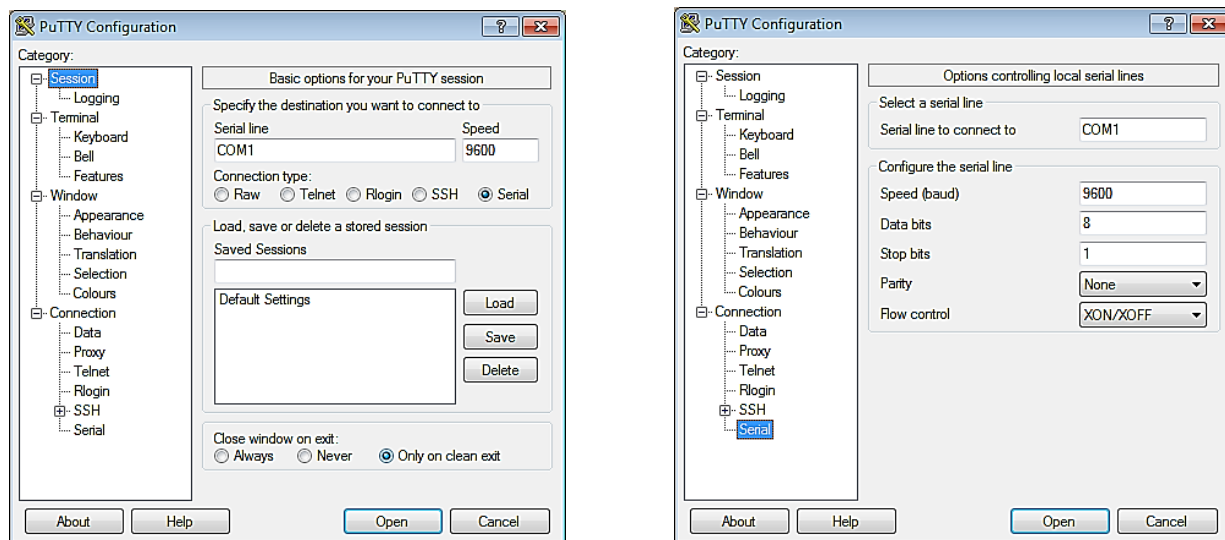

Figure 9-1: PuTTY GUI: Basic Serial Session (L) and Serial Options (R)
To use **PuTTY** to logon to a remote machine, bring up the PuTTY application by double-clicking its icon. You will see the main window as shown in left image of Figure 9-1.
To create a Serial connection, click the radio button labeled **Serial**. The **Serial line** and **Speed** fields will then be automatically filled in as shown in **left** image of Figure 9-1, but will allow you to specify the serial line to use (if your computer has more than one) and what speed (baud rate) to use when transferring data. For further configuration options (data bits, stop bits, parity,
flow control), you can use the **Serial Configuration** panel (*right* image in Figure 9-1) by selecting “Serial” in the left navigation pane.
So that you don't have to enter this information every time you wish to connect to your server, you can save this configuration by typing an appropriate *name* in the **Saved Sessions** text box in the PuTTY “Basic Options” window (left image of Figure 9-1) and then clicking the **Save** button. In the future, you can select the *name* you chose in the list box and click the **Load** button to initialize this particular configuration.
2. At the bottom of the Basic Options dialog box (left image of Figure 9-1) in the section titled: **Close window on exit**, select the **Never** radio button. This will keep the window open after the command has finished executing so that you can see any results in the terminal window.